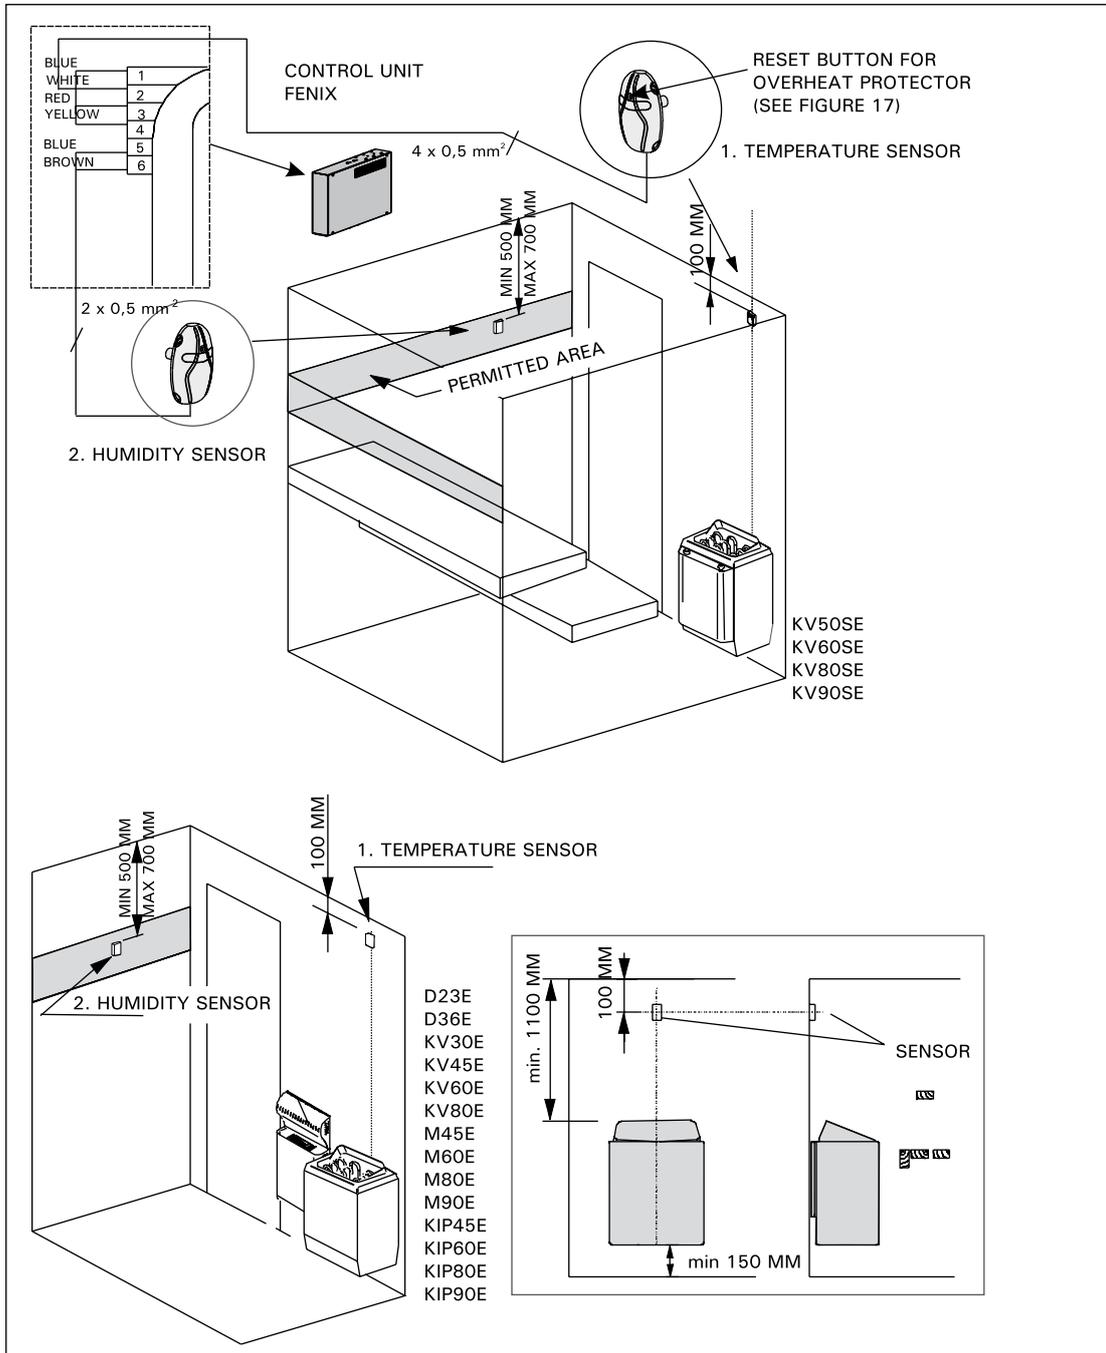

Figure 12. Installing the temperature and humidity sensors of the Fenix control unit, wall-mounted heaters
**Wall-mounted heaters and Combi heaters** (see Figure 12).